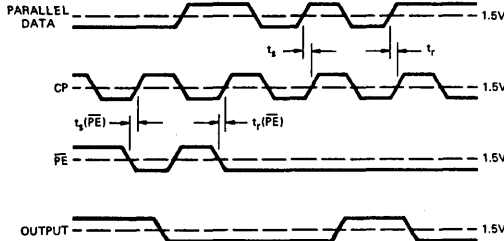

Figure 3
t_s Set-up time defined as the minimum time required for the logic level to be present at the data inputs prior to the clock transition from LOW to HIGH in order for the flip flop(s) to respond. Refer to Figure 3.
t_r Release time defined as the maximum time allowed for the logic level to be present at the data inputs prior to the clock transition from LOW to HIGH in order for the flip flop(s) not to respond. Refer to Figure 3.
t_{s(PE)} Set-up time for the Parallel Enable is defined as the minimum time required for the logic level to be present at the Parallel Enable (PE) prior to the clock transition from LOW to HIGH in order for the flip flop(s) to respond. Refer to Figure 3.
t_{r(PE)} Release time for the Parallel Enable is defined as the maximum time allowed for the logic level to be present at the Parallel Enable logic input prior to the clock transition from LOW to HIGH in order for the flip flop(s) not to respond. Refer to Figure 3.